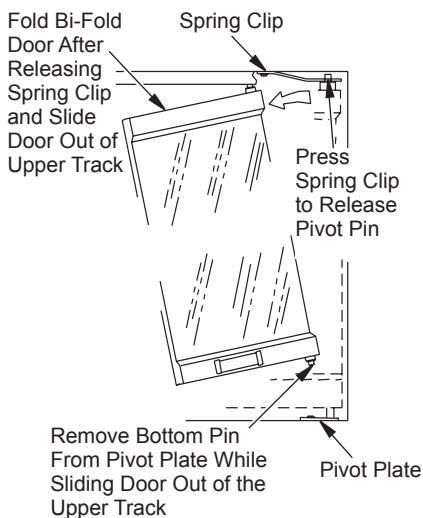

Figure 35 - Removing Glass Doors
- Fully fold frame assembly and slide upper edge towards center of firebox opening until guide pins are free of frame rail (see Figure 35).